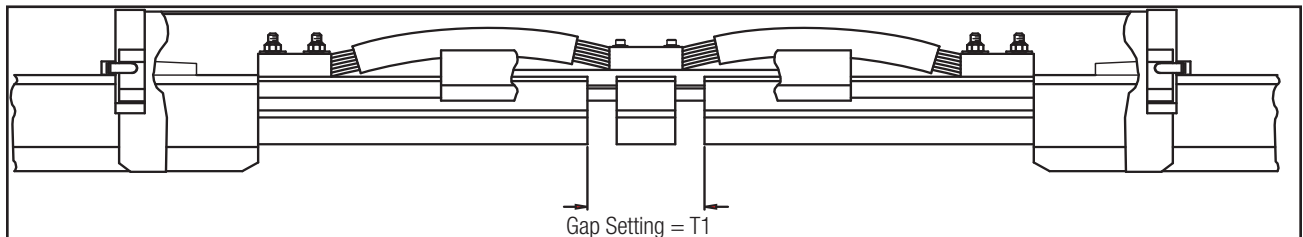

Figure 19-1
- Conductor bar, conductor bar cover, slider assembly, overlap cover, and end plugs. A drawing of a 500A expansion assembly can be seen below in **Figure 19-1**.